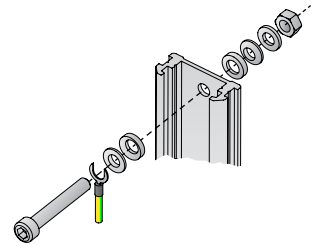

Figure 11: Mounting with screws including earth cable
- ▶ Mount the GridScan/LR emitter and receiver edges on the walls using the screws provided. Feed the earth cable between the screw and the first washer (Figure 11).